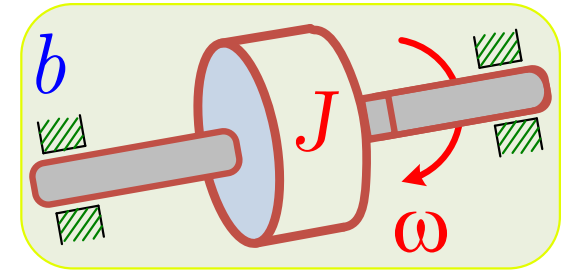

Fig. 3-8 Rotor mounted in bearings
- Find the free response of a rotor that is mounted in bearings as shown in figure 3-8. The moment of inertia of the rotor about the axis of rotation is  $J$ . The friction in bearings is viscous friction  $b$ . No external torque is applied to the rotor.